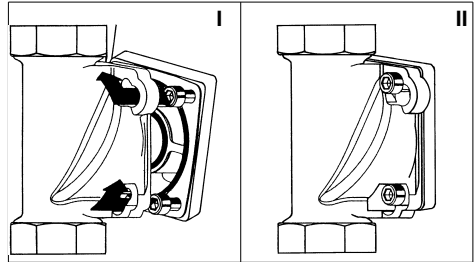

Fig. 3: Built-in rotary flange with bayonet fixture
- Insert the four flange screws in the bayonet drill holes on the built-in rotary flange (see fig. 3 I).
- Turn the filter in a clockwise direction as far as it will go (see fig. 3 II).